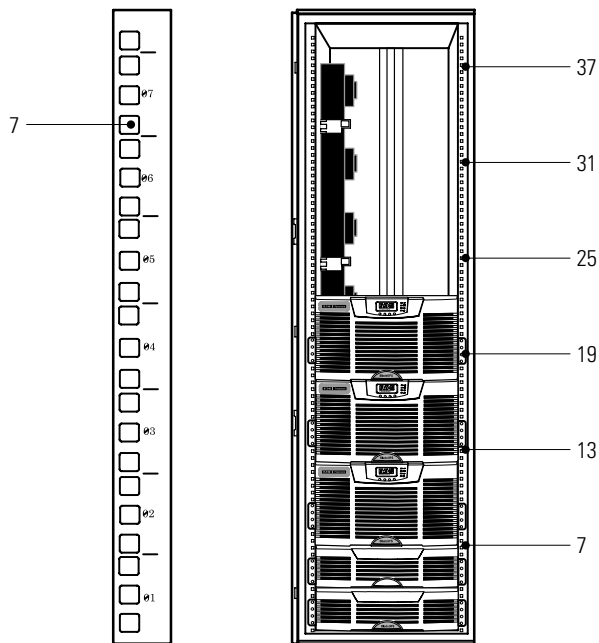

Figure 3. Recommended Rail Locations (Example Configuration)
8. Plan where each cabinet will be located in the rack and determine the “U” marks to use for mounting the rails. For example, for a rack containing six UPSs and a bottom wireway, plan to mount the bottom of the rails at the following marks (see Figure 3):
NOTE Recommended rail locations are for example only. Adjust the locations as needed for your system’s configuration. Allow for hole spacing and numbering (see Figure 3). For guidelines for configuring a parallel system with EBMs, see page 4.